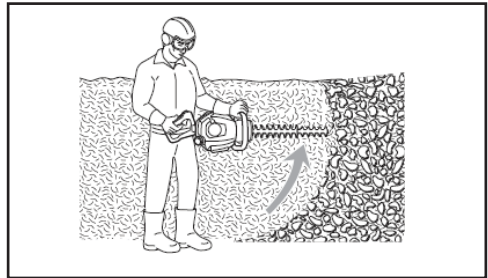

Fig. 9
- First cut both sides from the bottom cutting upwards to the top. This will prevent any of the cuttings falling into the path of the area still to be cut (see Fig. 9).